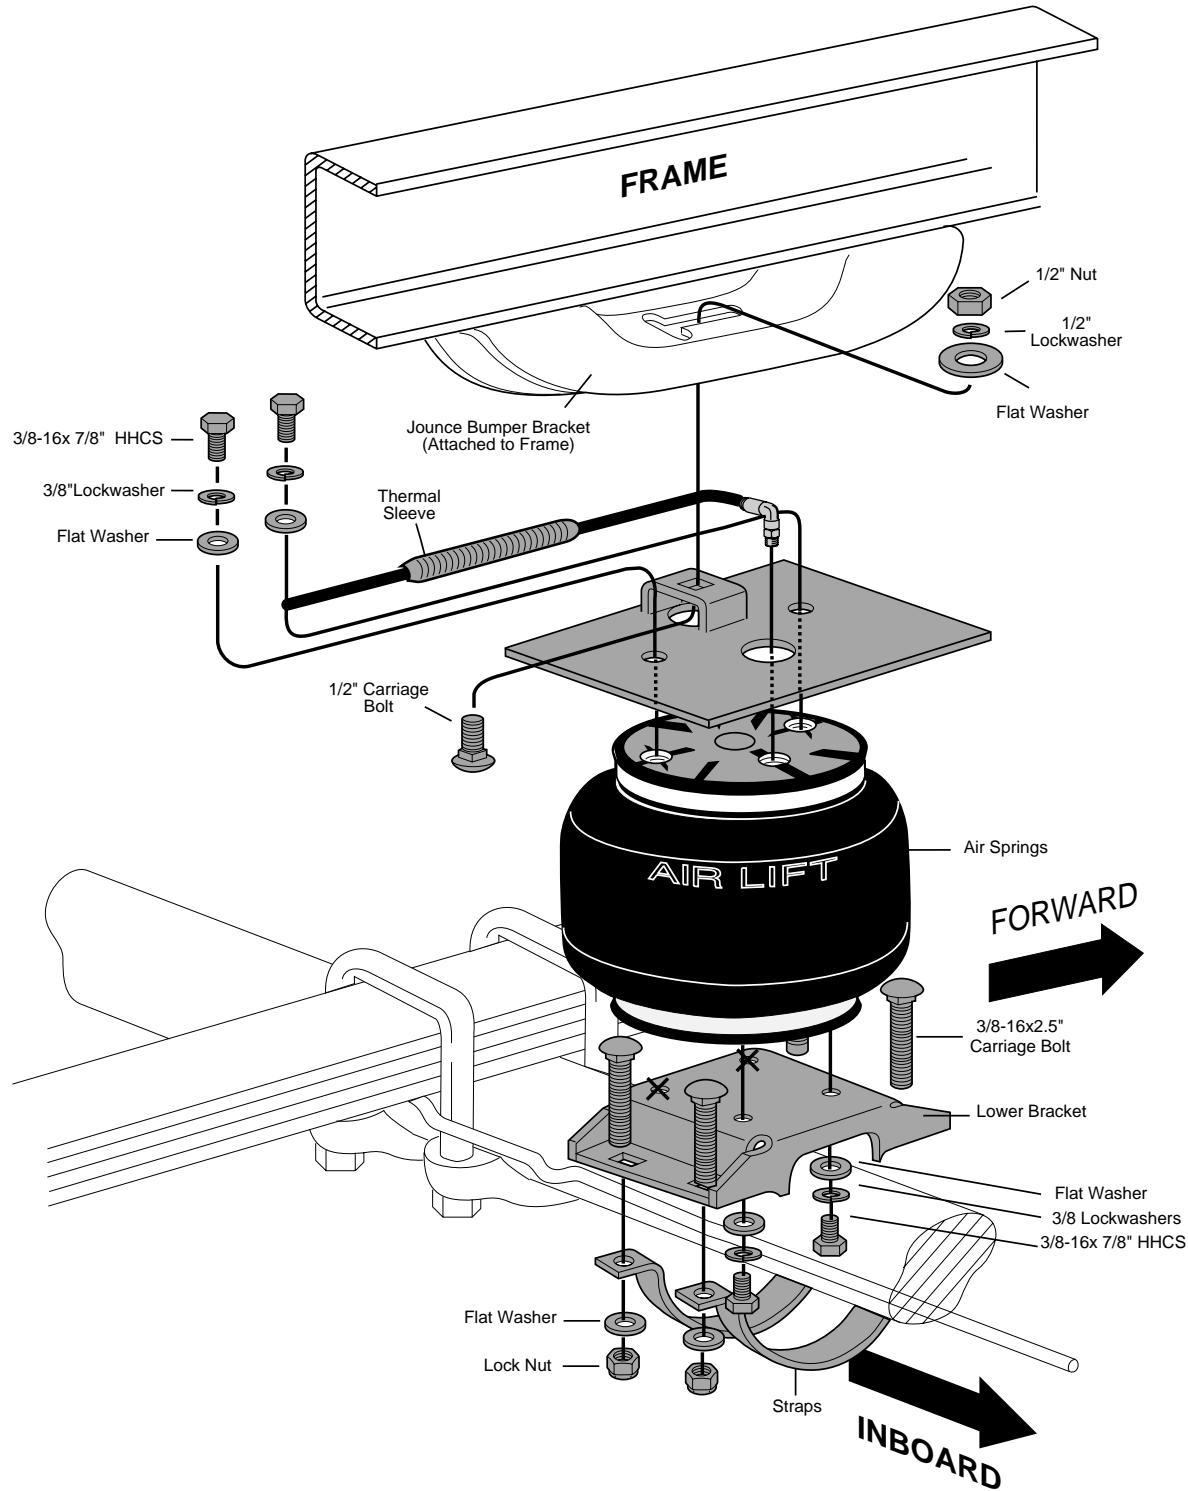

Figure 1
3. Insert a 1/2 x 1.5" carriage bolt into the square hole of the upper bracket. Attach the upper bracket to the top plate of the air spring with two 3/8" x 7/8" bolts, flat washers and lock washers (Figure 1).
6. Set the assembly on the axle housing (Figure 1). Push the threaded portion of the carriage bolt into the jounce bumper track. Loosely attach the upper bracket to the frame with this 1/2x 1.5" carriage bolt, 1/2" flat washer, 1/2" lock washer, and 1/2" nut (Figure 1).
- Tighten the 1/2" nut on the upper bracket to 20 ft/lbs (Figure 1).
*NOTE: To prevent the air line from melting, keep it at least six inches from the exhaust system. Use the thermal sleeve on the exhaust side (Figure 1).*